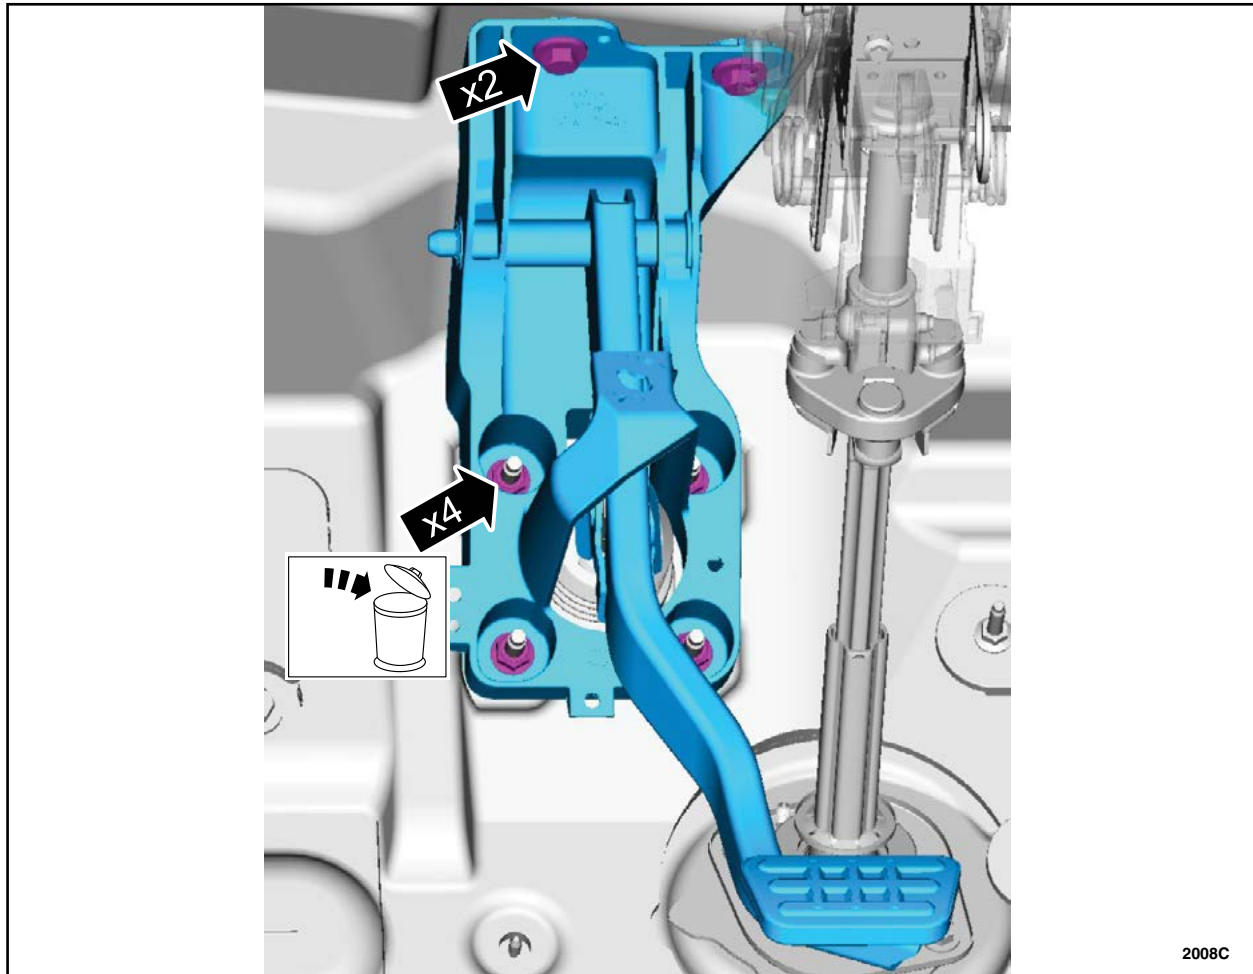

FIGURE 4
4. Remove the retainers, discard the 4 nuts and remove the brake pedal and bracket. See Figure 4.